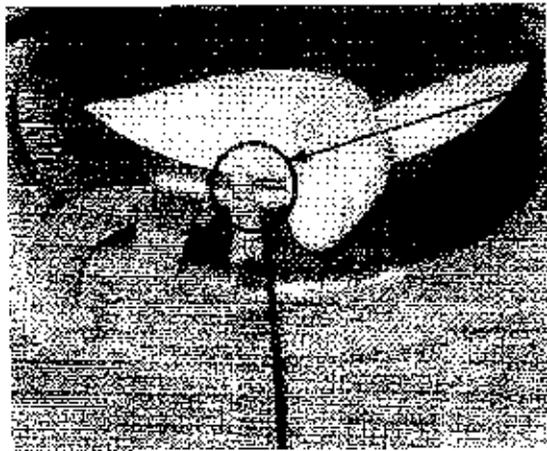

Figure 5
- The sensor is located at the top of the smoke box assembly and should be cleaned by gently scrapping the ceramic portion of the sensor with the edge of a knife as shown in figure 5. Be sure to support the end of the sensor to prevent damage to the wires due to excessive movement.